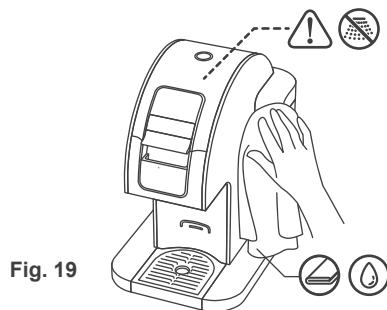

Fig. 19
CAUTION: Only use a moist cloth and if necessary a mild detergent (never use abrasive or aggressive detergents). Do not wash machine parts in the dishwasher. (Fig. 19)
1. Use damp non-abrasive cloth for cleaning the exterior of the brewer. Never immerse the brewer in water or use a dishwasher to clean the brewer. (Fig. 19)